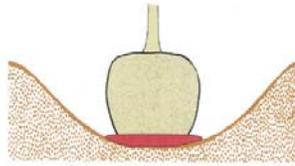

Figure 16. Stabilize the tree by firming a small ring of backfill soil around the base of the root ball.
- g) For stability, firm a shallow ring of soil around the bottom of the root ball. [Figure 16]